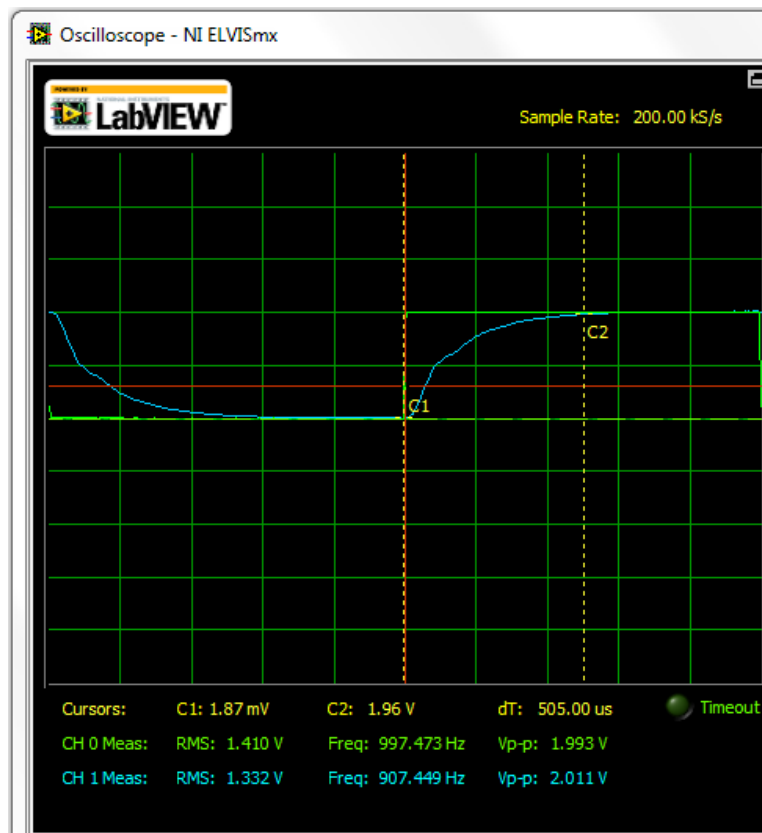

Figure 20: Closed loop step response of a second order plant
4. Adjust the system so there is **no overshoot** and the settling time is less than approximately **500  $\mu\text{s}$**  as shown in Figure 20. You may have to adjust the time scale and frequency of the signal generator to get a good picture. Be sure your system has reached steady state (it's flat on the top!). You should include a screen shot of the system output in your memo.